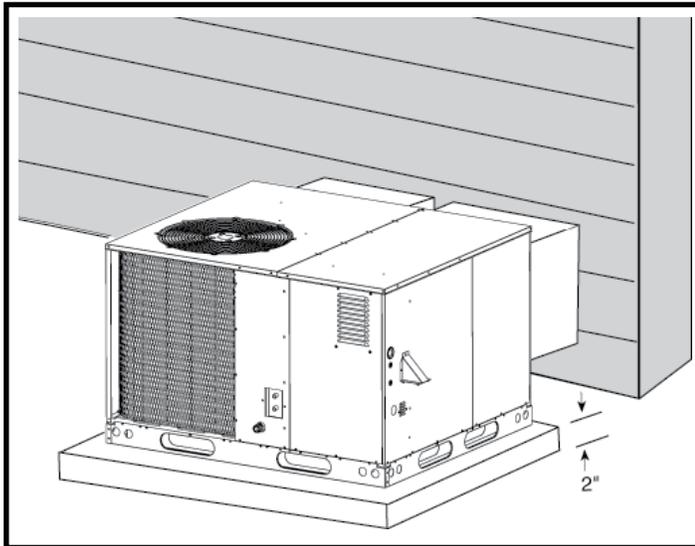

Figure 3. Ground Level Installation
- Clearances must be in accordance with those shown in Figure 3 (page 10).
- A suitable mounting pad (Figure 3) must be provided and be separate from the building foundation. The pad must be level to ensure proper condensate disposal and strong enough to support the unit's weight. The slab height must be a minimum of 2" (5cm) above grade and with adequate drainage.